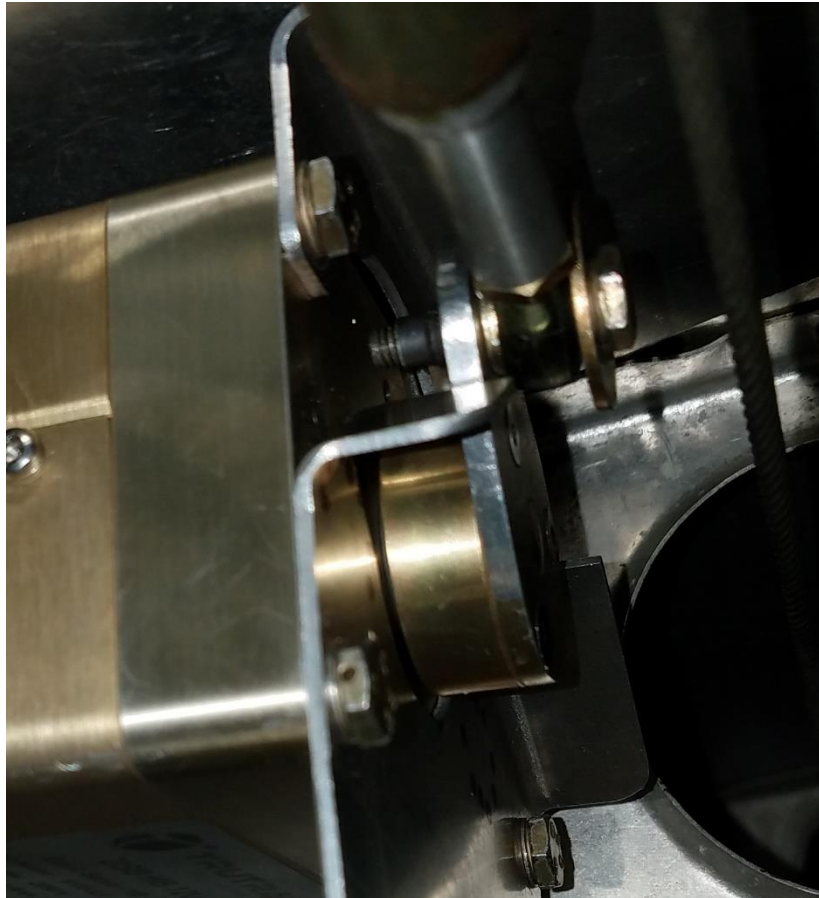

Figure 2-11
- 14.1. Have an assistant hold the yoke in the full left position and rotate the servo arm against the outboard stop as shown in figure 2-11.